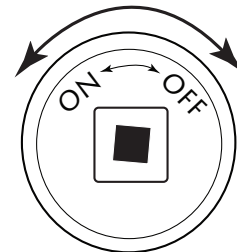

Fig. 9. Key Valve Face
1. Insert key into shut-off valve and secure into square end (see figs 9 & 10).